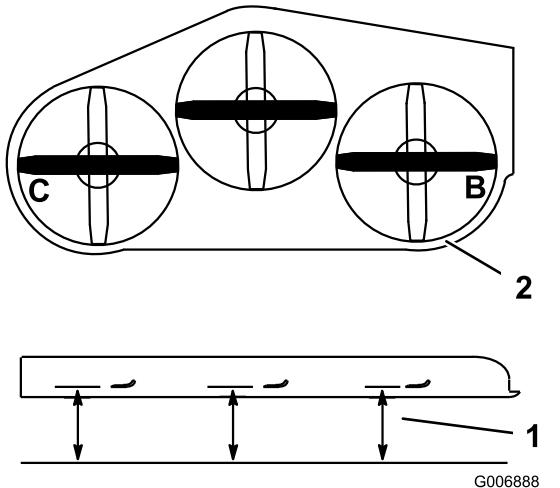

Figure 80
- Measure at the **B** and **C** locations from a level surface to the cutting edge of blade tips (Figure 80).